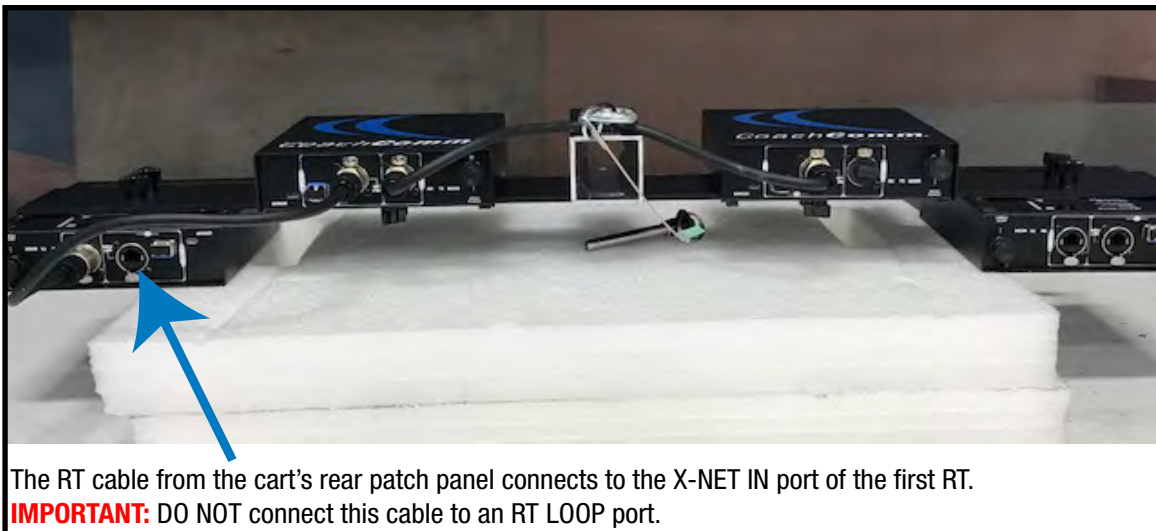

Figure 122: RT Cable Connection Location
6. Connect the RT cable to the first RT on the top bracket. (See Figure 122.)